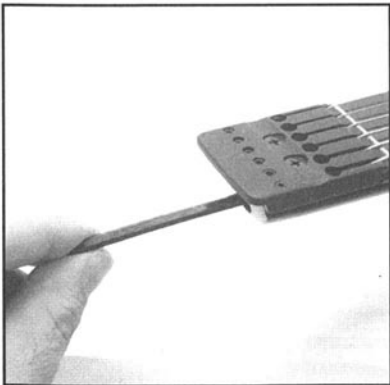

Figure 9
- If there is too much gap, the truss rod needs to be turned clockwise. (Figure 9)